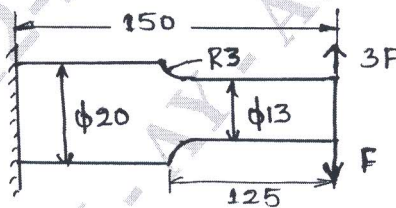

Fig.Q2(b)
b. A cantilever beam made of cold drawn carbon steel ( $\sigma_u = 550$  MPa;  $\sigma_y = 470$  MPa;  $\sigma_e = 275$  MPa) circular cross section shown in Fig.Q2(b) is subjected to load varies from  $-F$  to  $3F$ . Determine the maximum load that the cantilever can withstand for an infinite life, using a factor of safety 2.